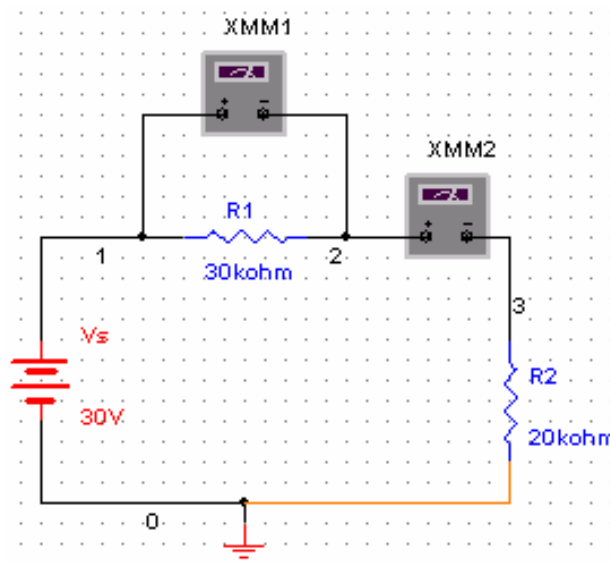

Figure 16: Multimeter connection for current measurement
1. Place a second Multimeter in the workspace as we did in Step C. Remove the connection between R_1 and R_2 . Connect the '+' terminal of the Multimeter towards R_1 and the '-' terminal towards R_2 as shown in Figure 16.